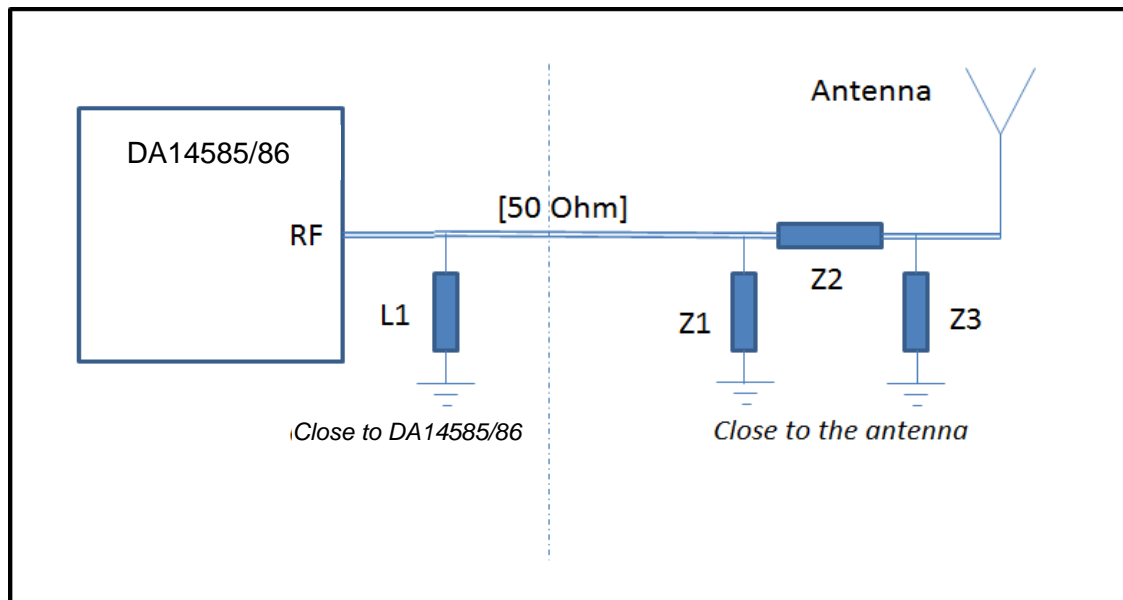

Figure 3: Antenna matching network
- This shunt inductor is L1 in Figure 3. It shall be placed as close as possible to DA14585/14586. This matching ensures best RF sensitivity and highest RF output power. Additionally it gives a 50 Ω point as a reference for the antenna matching.
- Z1, Z3, and Z2 in Figure 3 are components for antenna matching. These parts should be placed close to the antenna. Most universal is a PI matching network, having two shunt components and one series component. Type and value fully depend on the antenna type, but typically small pF caps and low nH inductor values are expected here. To guarantee a constant matching over production, good tolerance components are recommended. In most cases, not all three parts are required to have a good matching.